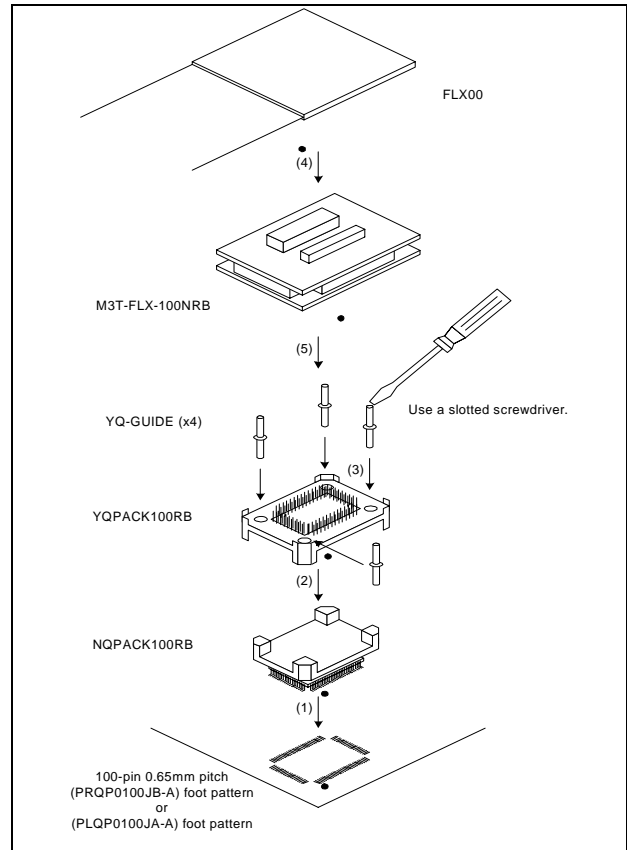

Figure 3 Connection procedure of the M3T-FLX-100NRB
5. Connection Procedure (See Figure 3)